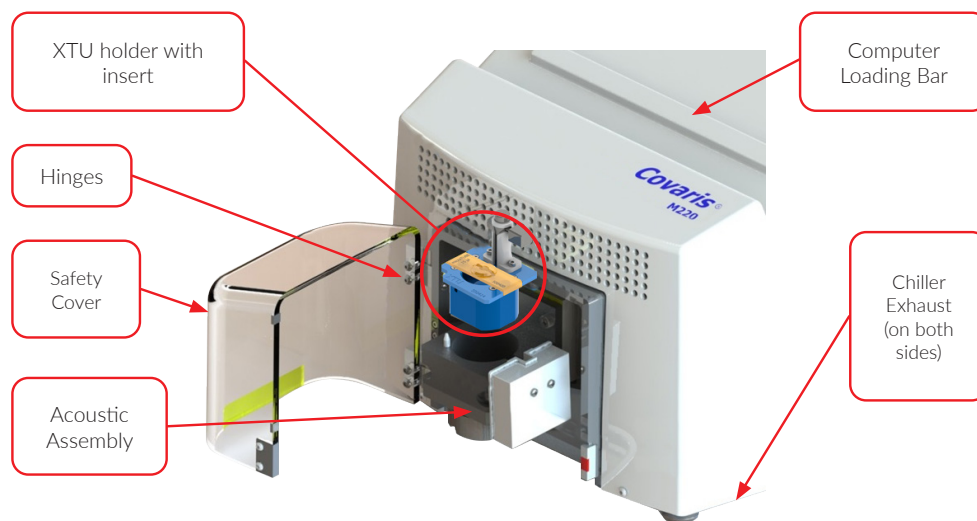

Figure 2.1 A front view of the M220 instrument.
After the instrument is unpacked, please locate the M220 on a flat surface near two power outlets. Use both sides of the base (Figure 2.1) to lift the instrument. Do not use the acoustic assembly to lift the instrument. If necessary, adjust the four adjustable feet to ensure the instrument is stable and level. Do not remove the adjustable feet. They are needed to ensure proper air flow from the system chiller.
5. Place the Safety Cover on the hinges (please refer to **Figure 2.1**);